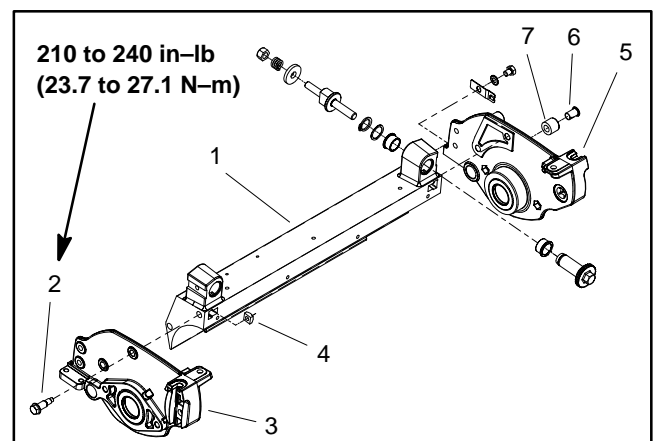

Figure 32
11. Remove two (2) shoulder bolts and square nuts that secure RH side plate to crossmember (Fig. 32). Slide RH side plate and pitch arm from reel shaft.
2. If separated, attach LH side plate to crossmember with two (2) shoulder bolts and square nuts (Fig. 32). Torque shoulder bolts from **210 to 240 in-lb (23.7 to 27.1 N-m)**. Make sure that LH pitch arm is installed on bushing on side plate.
7. Carefully slide RH side plate and pitch arm onto reel shaft taking care to not damage wear seal or grease seals. Secure RH side plate to crossmember with two (2) shoulder bolts and square nuts (Fig. 32). Torque shoulder bolts from **210 to 240 in-lb (23.7 to 27.1 N-m)**.